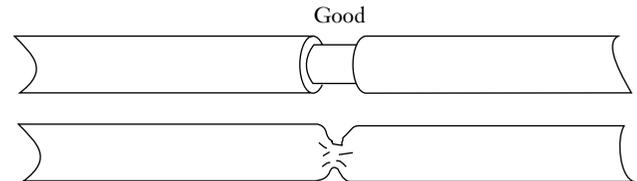

Figure 2
- c) Check the cut with a magnifier. The cut should be clean and complete (Figure 2).